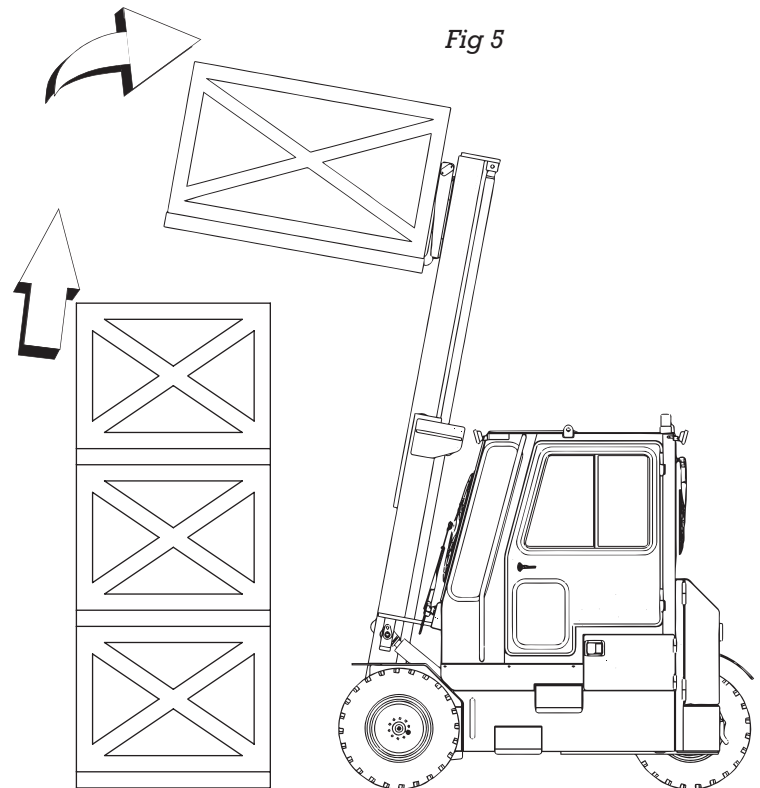

Fig 5
2. Move forward slowly, making adjustment as needed, until the forks are fully engaged and the load is against the backrest. Apply the park brake. Raise the forks just enough to lift the load. Tilt the mast back slightly with the heaviest part of the load against the backrest. *Fig 5.*